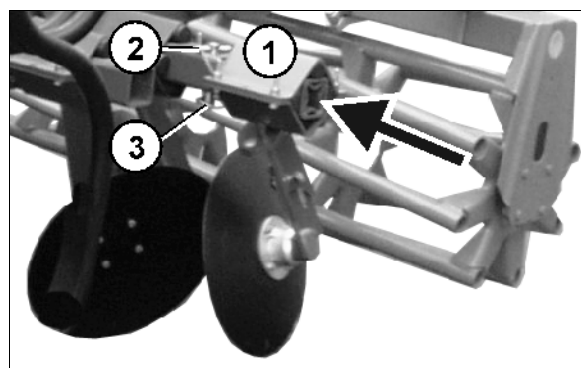

Fig. 35
- Push in both side discs (Fig. 35/1) completely and affix by using securing pin (Fig. 35/2) and lynch pin (Fig. 35/3).